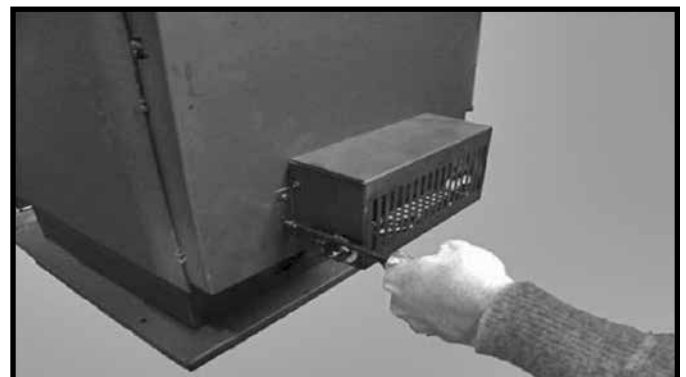

Figure 24: Installing the blower.
2. Place the blower into the opening in the rear shield with the blower outlet pointing up (Figure 24). Attach by using the screws provided with the Blower Kit,